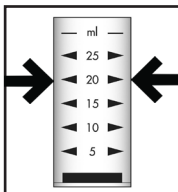

Figure 1
1. Fill the sample cup to the 20 mL mark with the sample to be tested (fig.1).